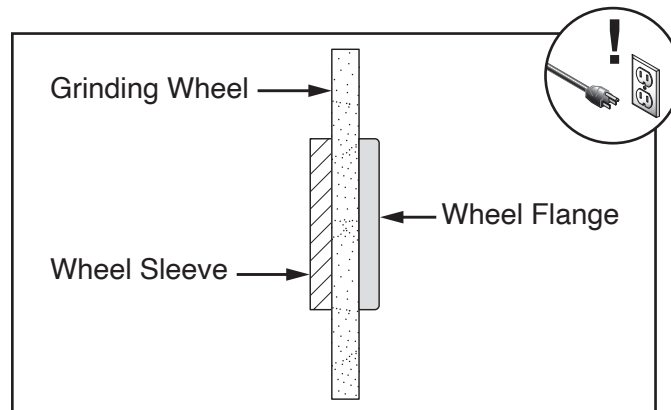

Figure 43. Wheel assembly components.
2. Insert wheel sleeve into wheel and thread wheel flange onto wheel sleeve (see **Figure 43**), then tighten with spanner wrench until snug.